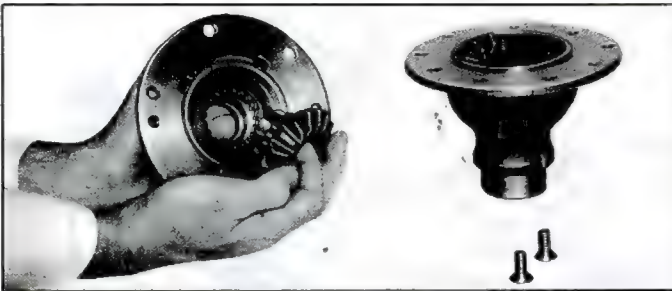

Fig. 58—Installing Side Gear
2. Install side gear into clutch pack, making sure splines engage clutch plate splines (fig. 58).